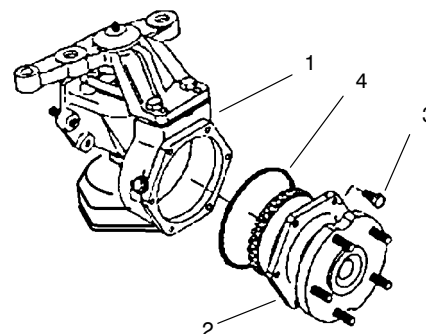

Figure 2
3. Remove the axle cover mounting screws. Remove the axle cover from the axle case as an assembly (Fig. 2).